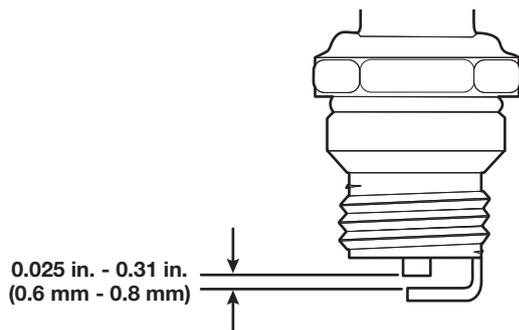

Fig. 15
5. Use a feeler gauge to set the air gap at 0.025 - 0.31 in. (0.6 mm - 0.8 mm) (Fig. 15).